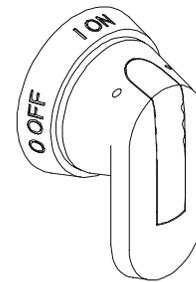

Figure 4.2: Turn the Main Disconnect Switch to the On Position.
1. Turn the *Main Disconnect Switch* to the On position. The Main Disconnect Switch is located on the upper right hand corner of the Main Electrical Cabinet door on the right side of the machine (see Figure 4.2).